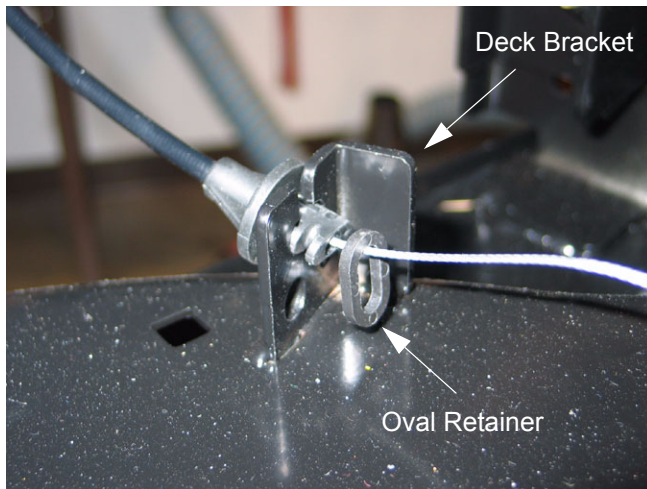

Figure 6
- 1.11. Slip the oval plastic retainer ring from the connector. Pull the connector rearward, lining the grooves in the connector with the deck flange and slide it up and out of the flange. See Figure 6.